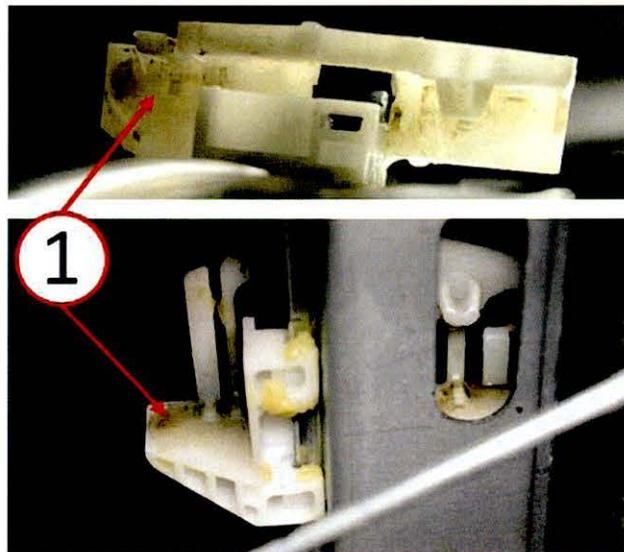
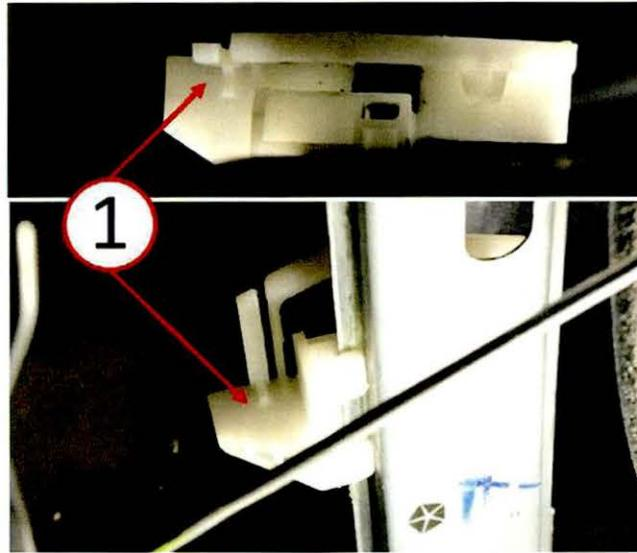

Fig. 6 Dirty Window Lift Plate
Fig. 7 Cleaned Window Lift Plate
7. Using window cleaner and clean rags. Clean all surfaces of window regulator lift plate around glass attachment area including underside of glass retainer hook (Fig. 6) and (Fig. 7).